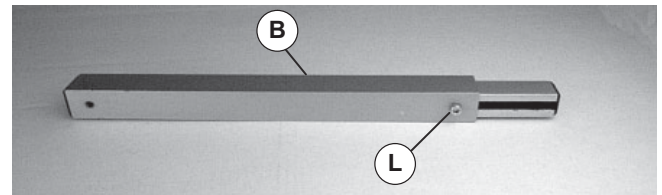

Figure 15
1. Loosen screw (Figure 15, item L) of adjustable bar (B).